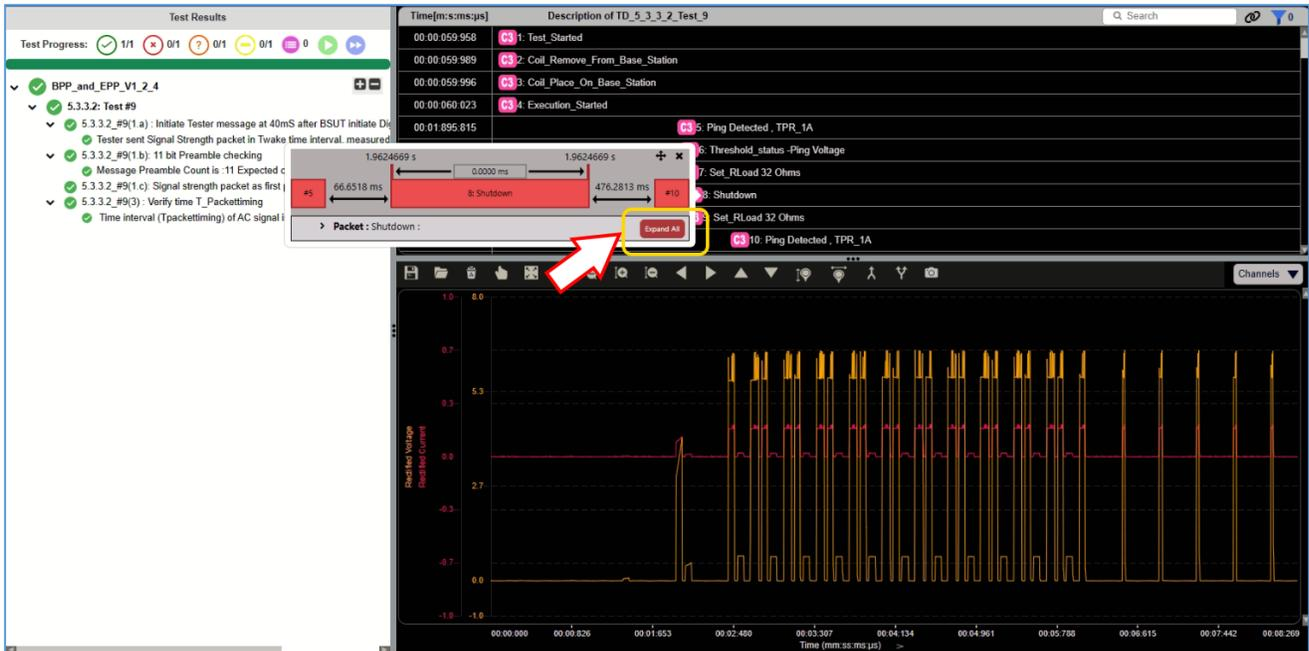

FIGURE 8.66: SELECTED TRACE FILE LOADED FOR VERIFICATION
3. The selected trace file will be loaded as shown in the example in Figure 8.66 below. After loading the capture, the test data with packet, waveform & description details will